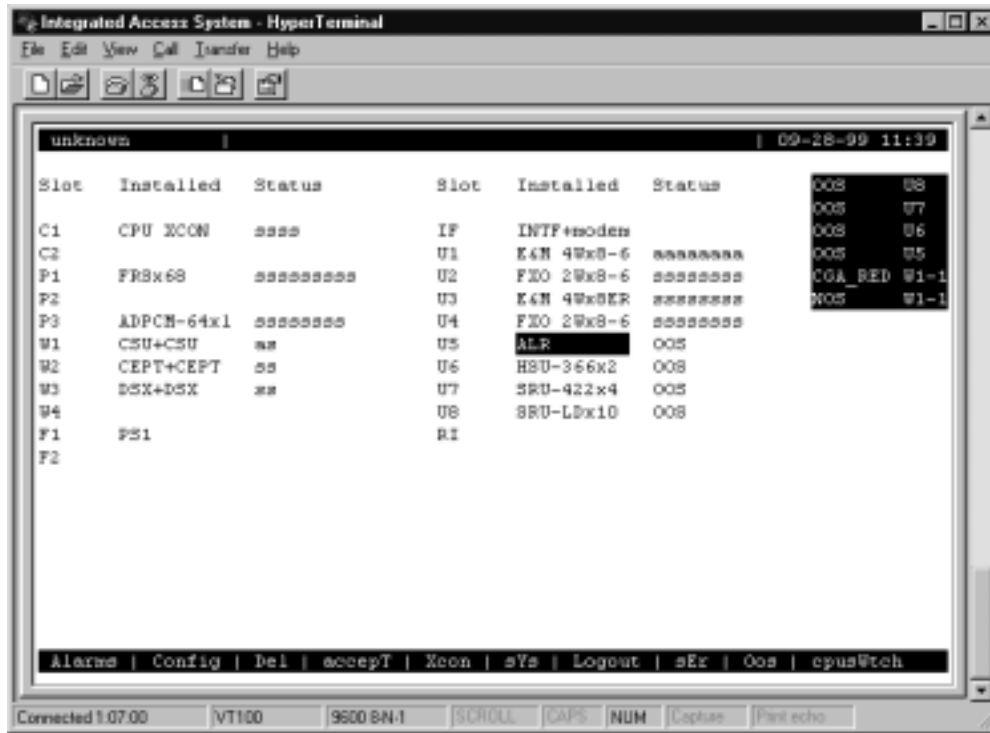

Figure 5-45. Typical System Main Screen with Alarms
- The system automatically builds the necessary time slot structure. Since the user slots are vacant, the system will register Out Of Service (OOS) alarms for each of the four cards, as shown in Figure 5-45.